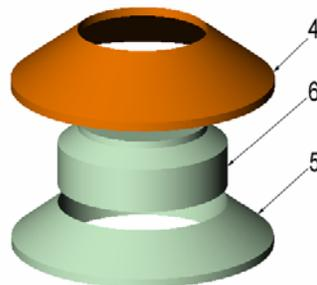

Figure 2: Liner/Pellet Assembly - Exploded View
1.3 Slide the inner cutter Pellet (item #6) into the outer cutter Pellet (item #5). See Figure 2.
1.4 Place the Liner (item #4) over the cutter Cartridges. See Figure 2.